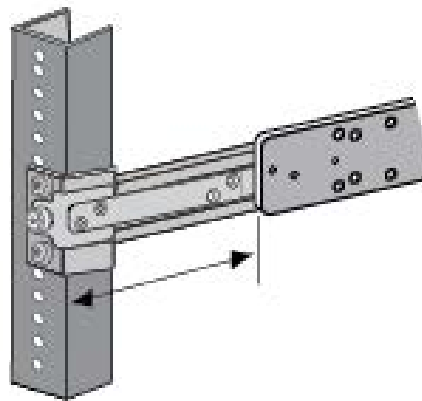

Figure 83. Verifying the Length of the Extension Bracket
5. Measure the distance from the front of the equipment rack to the front of the inner rail. Refer to Figure 83. This should approximately match the value you measured in “Measuring the Extension Bracket Lengths” on page 151.